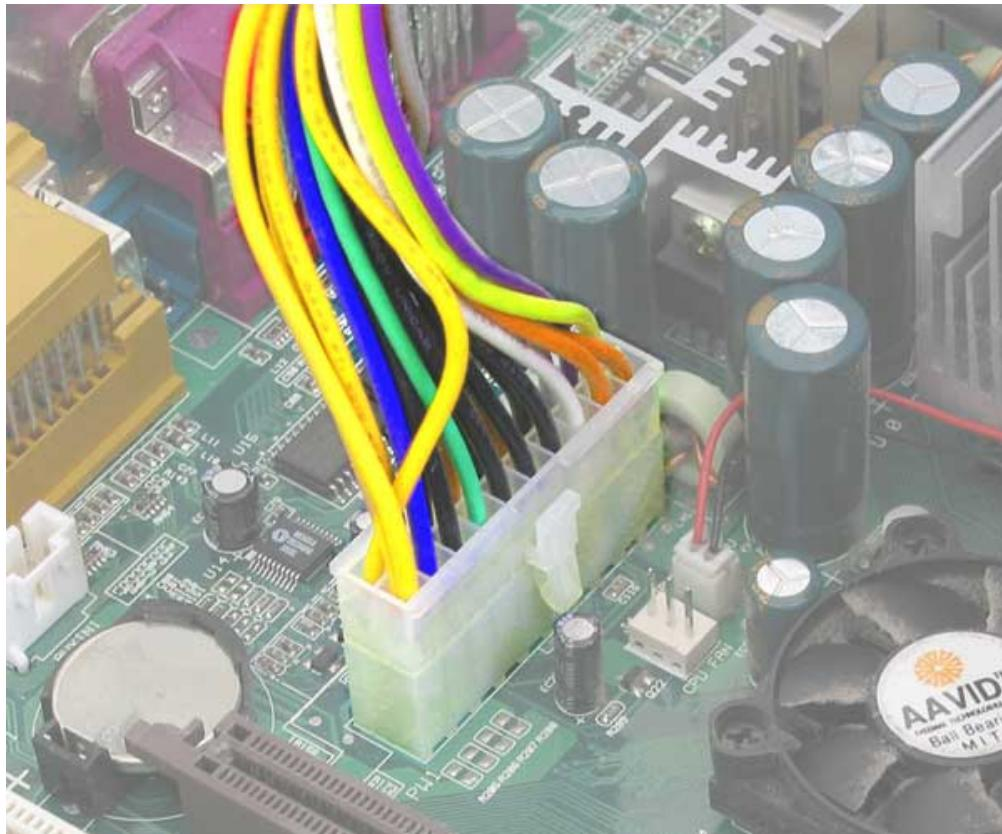

Fig. 26. The power supply is connected to the motherboard via a multicoloured cable and a large white plastic connector.
- The big *connector* which supplies the motherboard with power from the power supply (see Fig. 26).